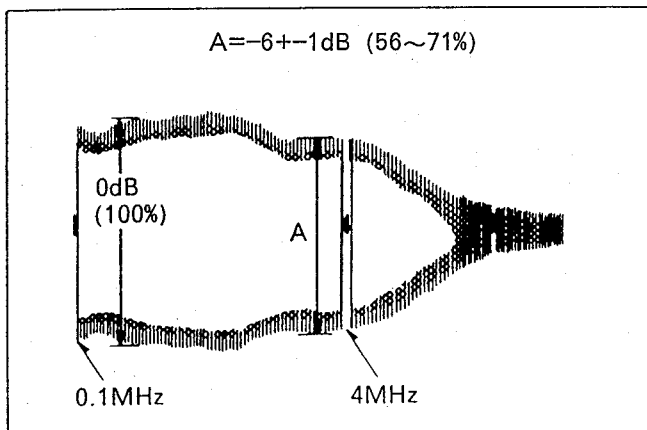

Fig. V12
- Adjust VR5001 so that level at 4MHz is within spec. as shown in Fig. V12.